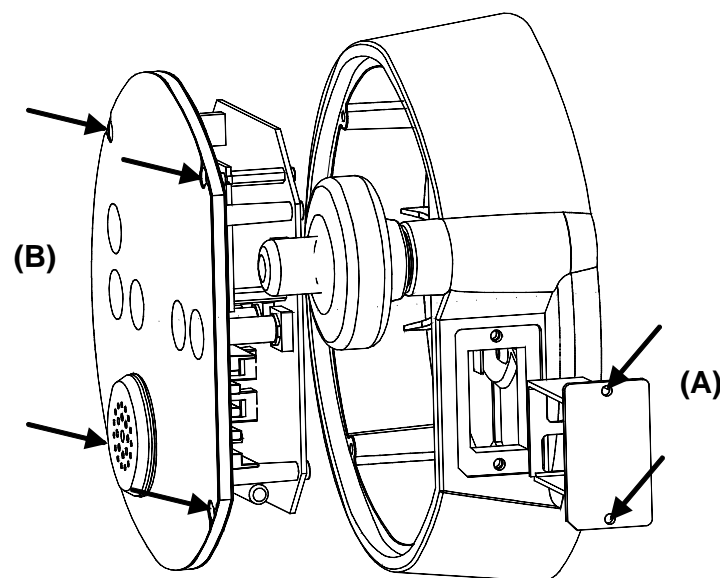

Figure 8-5
- Unscrew with the 2.5 Allen key the 2 screws (A) of the battery holder and pull it out as shown on Figure 8-5.
- Unscrew with the 2.5 Allen key the 4 screws (B) of the display unit and pull it gently out as shown on Figure 8-5.